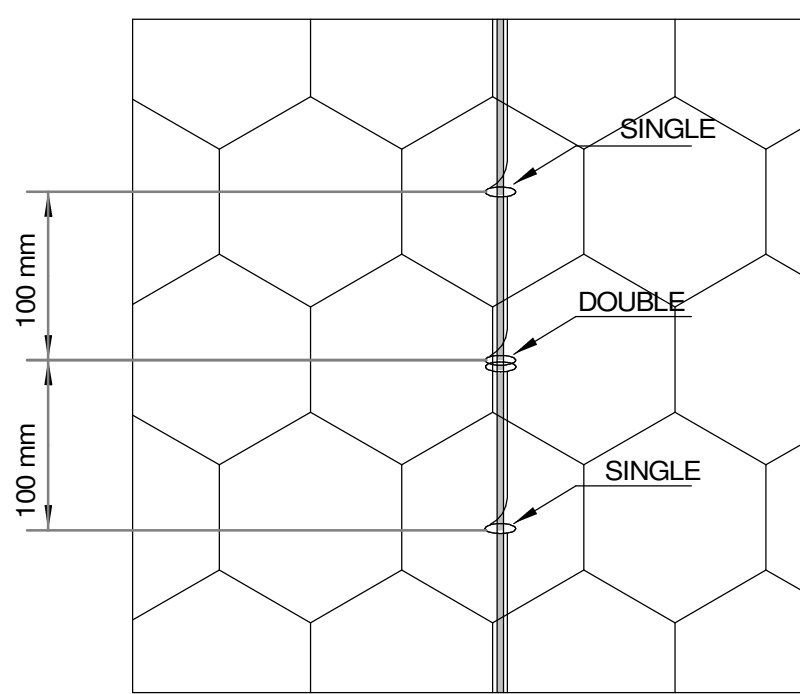

FIGURE 5
4. LACE THE EDGES OF PANELS TO BE JOINED USING THE DOUBLE AND SINGLE LOOP TECHNIQUE ALONG THE WIRE MESH OPENINGS WITH 100mm BETWEEN LOOPS. (FIGURE 5)